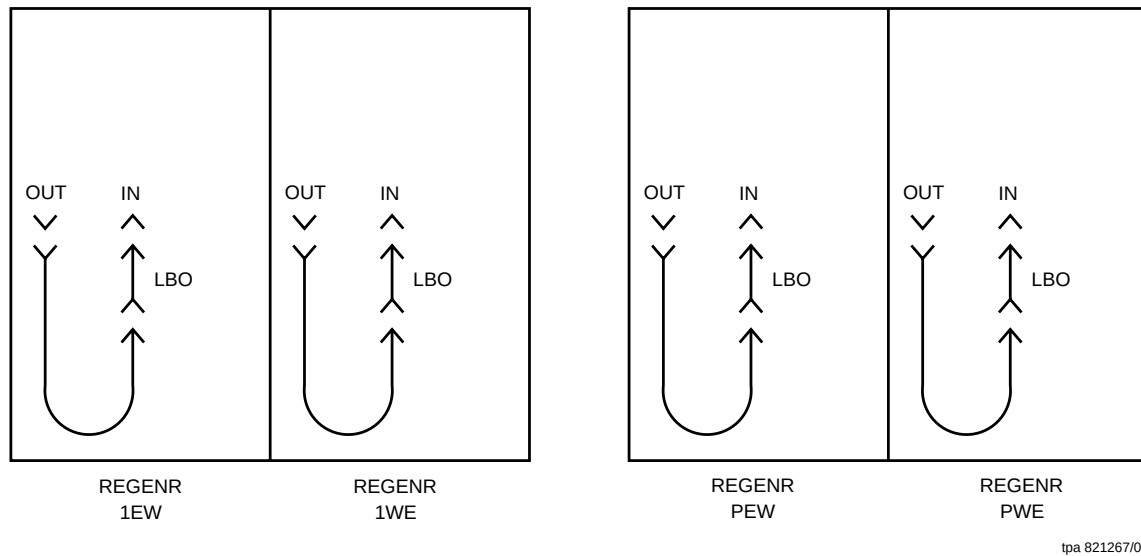

**Figure 1 – Optical Loopbacks at Repeater**
2. Is the OC-48 line loopback (Figure 1) being installed or removed?